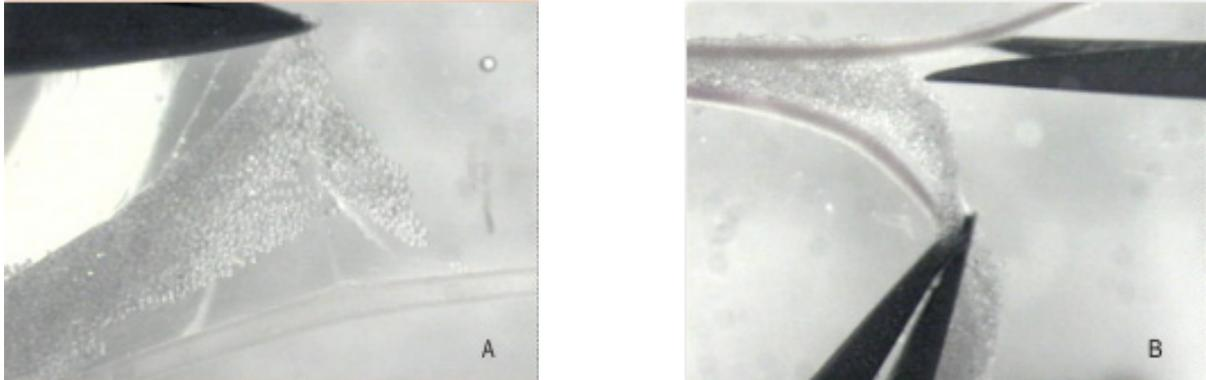

Figure 5.4 Removal of vein
- Dissect away the vein using scissors to cut the adipose and connective tissue between the artery and vein. One method is to cut the vein in one position and afterwards gently to pull the vein away from the artery. In this way, a fine membrane of connective tissue becomes visible between the adipose tissue and the artery. Carefully cut the fine membrane to remove the vein and adipose tissue while avoiding any direct contact between the scissor and artery (Fig. 5.4 A-B).